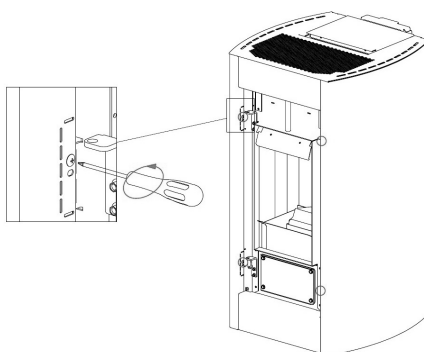
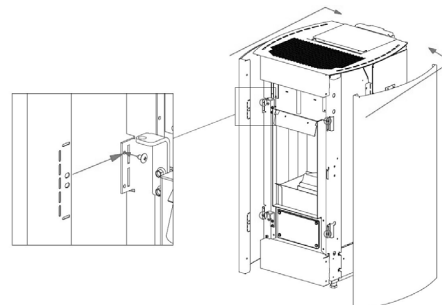

Fig. 56 - Remove screws
Fig. 57 - Remove side panels
- Loosen the 4 front screws and remove the side panels (see **Fig. 56** and **Fig. 57**).